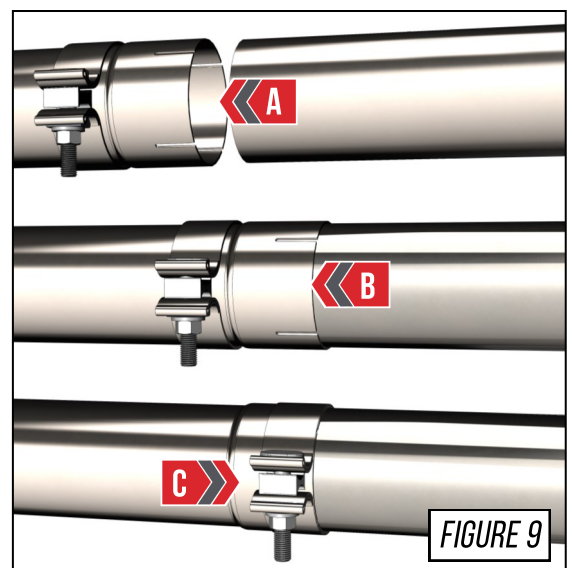

FIGURE 9
**Arrow A** in **Figure 9** shows the expanded pipe and the preinstalled Accu-Seal clamp being brought up to the corresponding pipe.
**Arrow B** in **Figure 9** shows the overlapping pipe installed correctly over the corresponding pipe.
**Arrow C** in **Figure 9** shows the Accu-Seal clamp being brought to the edge of the expanded pipe.